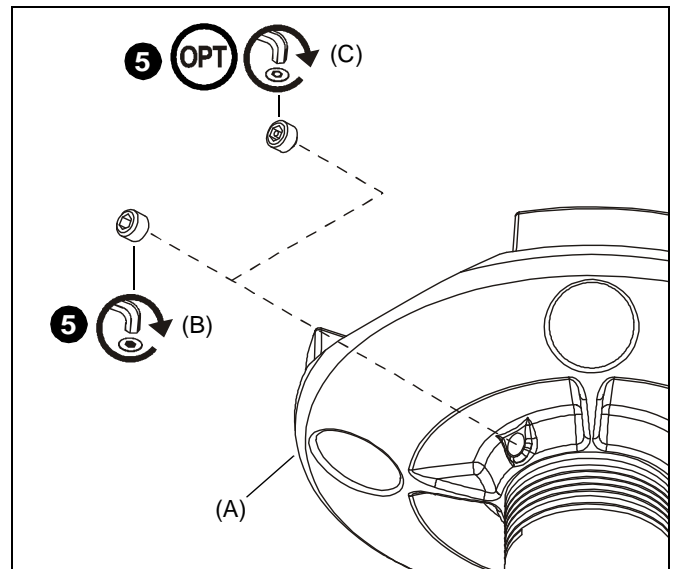

Figure 4
- Using hex key (D), secure extension column by one of the following methods (See Figure 4):
- Install screw (B) into threaded hole, tightening firmly against column.
- OPTIONAL:** Install security screw (C) into threaded hole, tightening firmly against column.